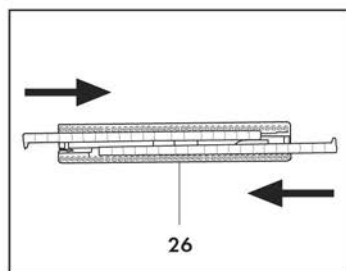

Fig. 10
To install the bristled frame for fitted and non-fitted carpets (26), introduce the stiff brushes into the appropriate guides with the tabs facing inwards (**Fig. 10**).